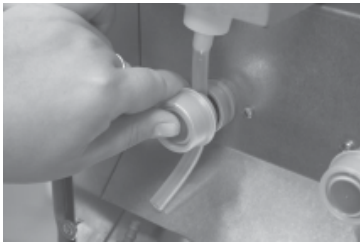

Fig. 2.
2. Place the box inside the dispenser. Press in the pinch solenoid and slide the tube in to the opening. (Fig 2)